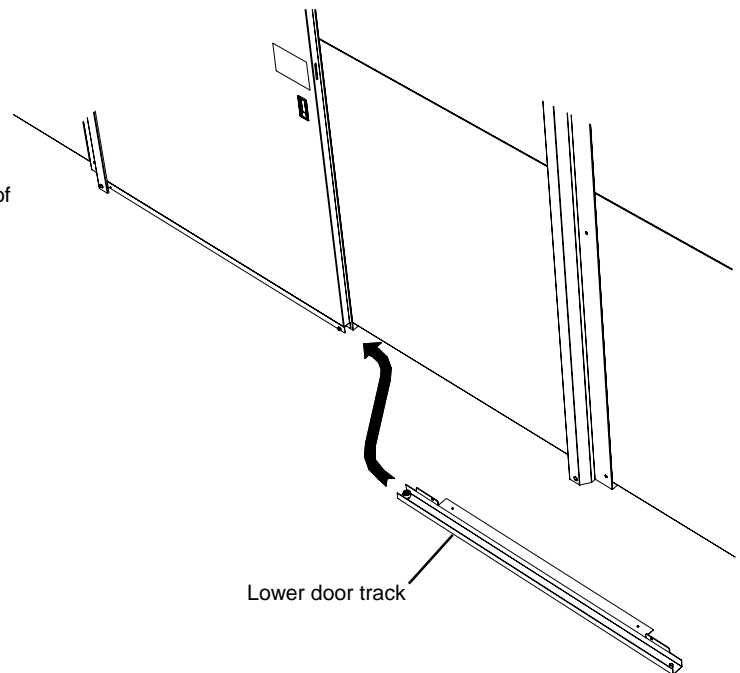

Figure 22
8. Assemble the lower door track to the cage wall section. See figures 22 and 23.